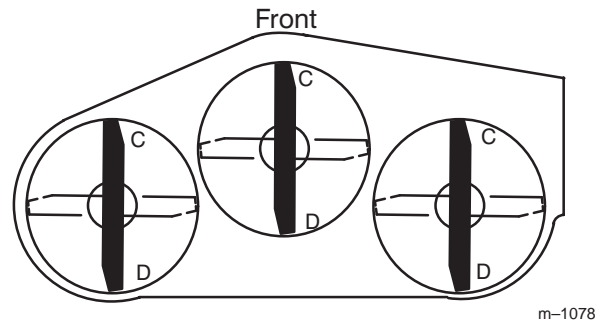
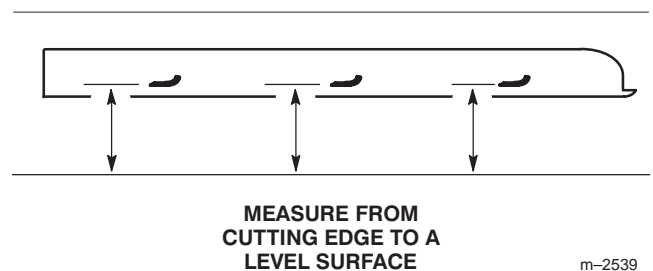

Figure 54
Figure 55
2. Position one blade front-to-rear (Fig. 54). Measure at "C" and "D" locations (Fig. 54) from a level surface to the cutting edge of the blade tips (Fig. 55).
4. Position the blades front-to-rear (Fig. 54). Measure at "C" and "D" locations (Fig. 54) from a level surface to the cutting edge of the blades (Fig. 55).